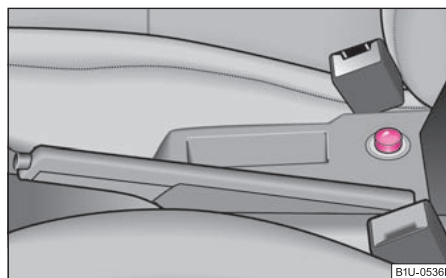

Fig. 91 Centre console: Cigarette lighter
- Press in the button of the cigarette lighter ⇒ fig. 91.